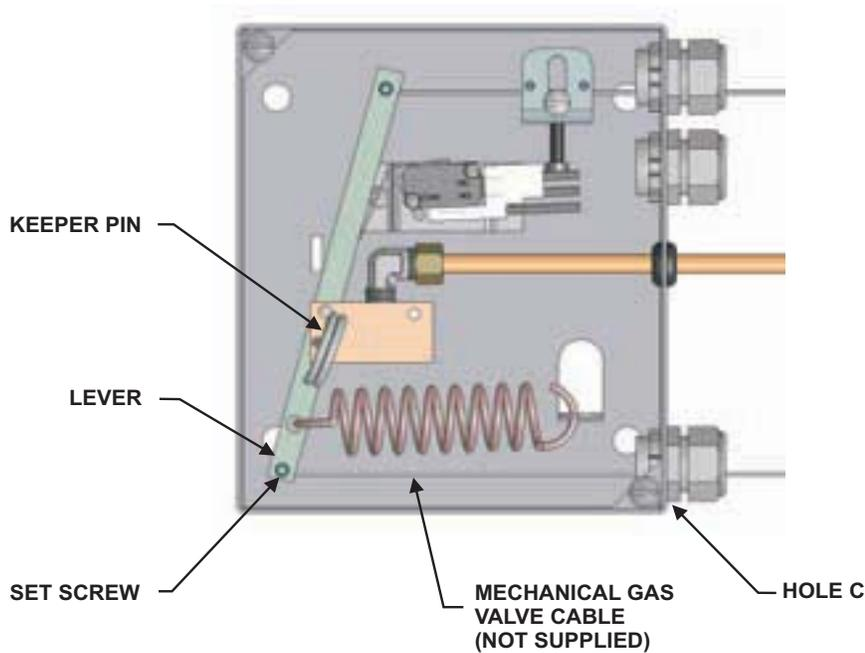

Figure 4-74. Cabling Mechanical Gas Valve Cable in the A+ Control Box
The A+ Control Box can close one mechanical gas valve upon actuation by relaxing the 1/16-inch (2 mm) stainless steel cable installed from the gas valve through conduit and Corner Pulleys to the hole on the valve body lever, next to the spring connection (Figure 4-74).
3. Connect 1/2-inch (13 mm) EMT to hole "C" on the side of the A+ Control Box (Figure 4-74).